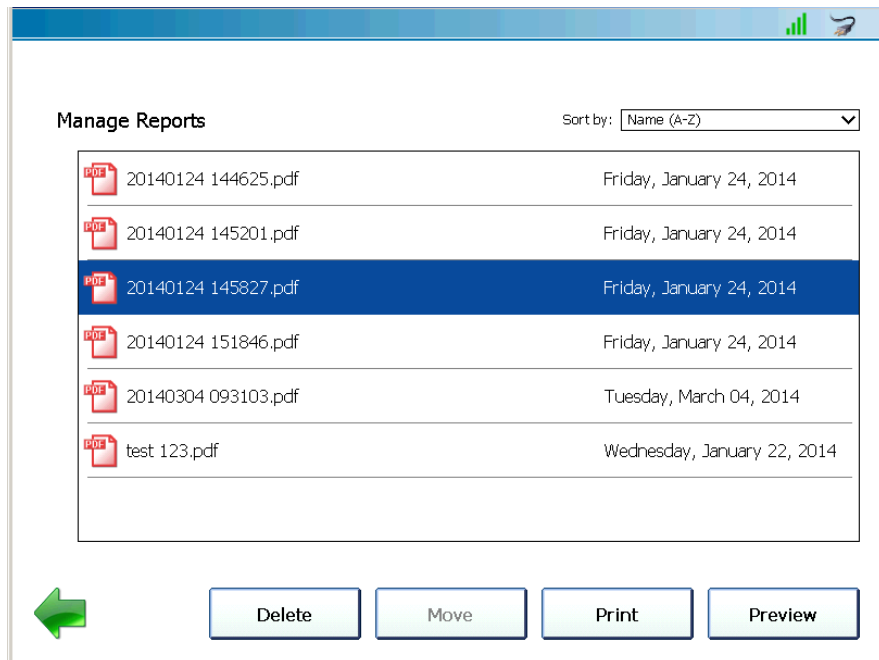

Figure 5.52 Selection Highlighted
- Touch the green **Back Arrow** at the bottom of the screen return to the Manage Reports screen (Figure 5.52).